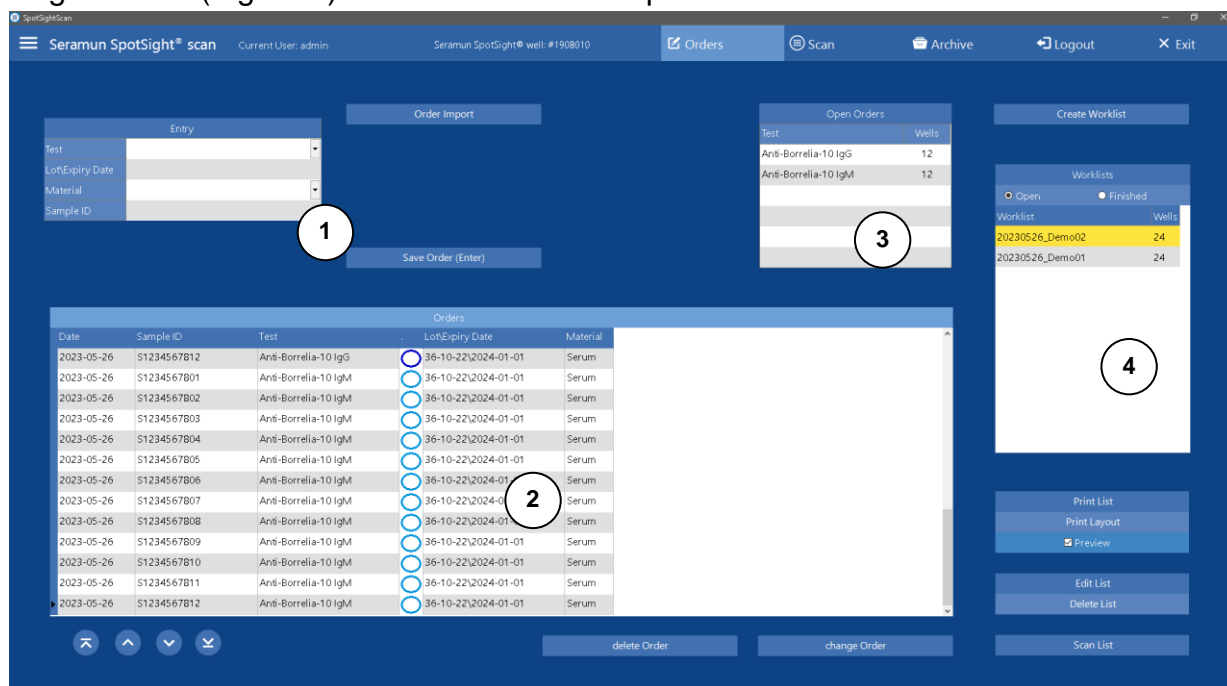

Figure 3: Page Orders
Page *Orders* (Figure 3) is used to enter or import orders in order to run a selected test.
The input fields (see Figure 3 ①) allow the entry of the following order data:
- Main table order (Figure 3 ②) – shows all open orders that are not part of a worklist yet
- Edit Order – allows for editing and changing existing orders within the input fields (see Figure 3 ①), complete edits by clicking *Save Order* (cancel edits by exiting the input fields)
- *Open Orders* (Figure 3 ③) – shows tests and count of all open orders that have not been included in a worklist yet
Open orders can only be processed if collected into a worklist (see Figure 3 ④).